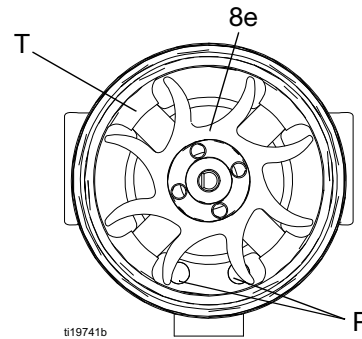

FIG. 32. Fan Orientation
Replace turbine bearings after 2000 hours of operation. Order Part No. 24N706 Bearing Kit. Parts included in the kit are marked with a symbol (◆). See FIGURE 32 through FIGURE 34.
12. Hold the coil assembly (8a) on a workbench with the fan end facing up. Press the fan (8e.) onto the long end of the shaft (S).The fan blades must be oriented as shown in FIGURE 32.